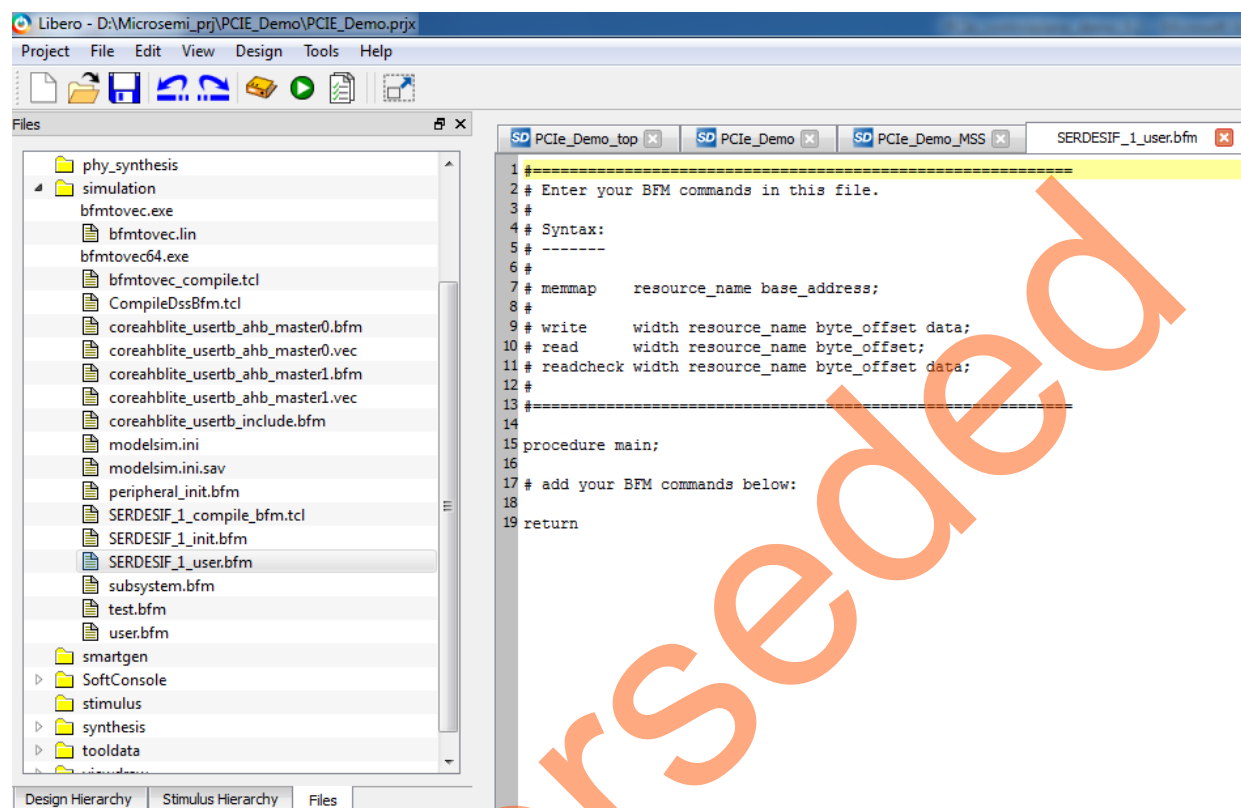

Figure 43 • SmartDesign Generated SERDESIF_1_user.bfm File
1. Open the SERDESIF_1_user.bfm file. To open the SERDESIF_1_user.bfm, go to the **Files** tab > **Simulation** folder, and double-click the SERDESIF_1_user.bfm. The SERDESIF_1_user.bfm file is displayed, as shown in Figure 43.